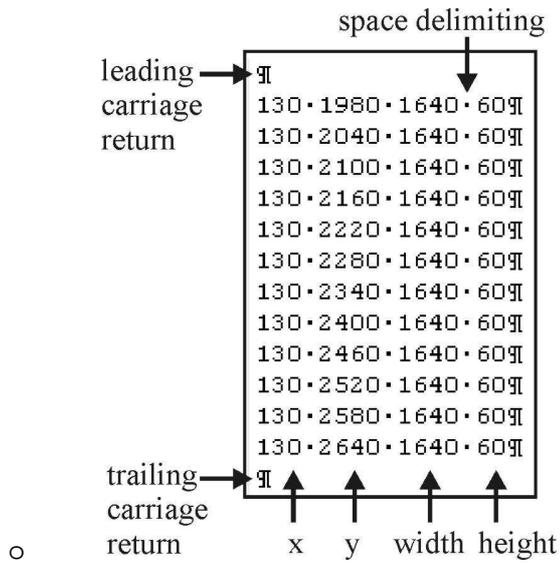

Figure C1. Coordinate file structure. The file should have no leading or trailing carriage returns or newlines.
- be sure there are no leading or trailing blank lines (Fig. C1).